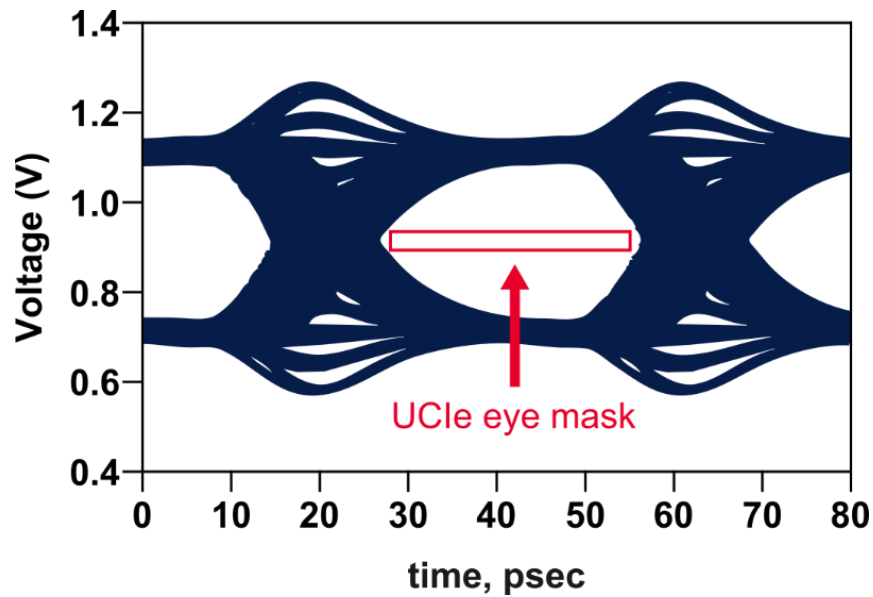

Figure 9. The UCIe standard provides eye masks to evaluate the performance of a given link. Proper Tx and Rx equalization can improve the eye-opening.
Figure 9 below shows the UCIe standard specified eye masks for 24 GT/s (Giga-Transfer per second). Equalization (EQ) on the transmitter (Tx) is recommended for 16 GT/s.